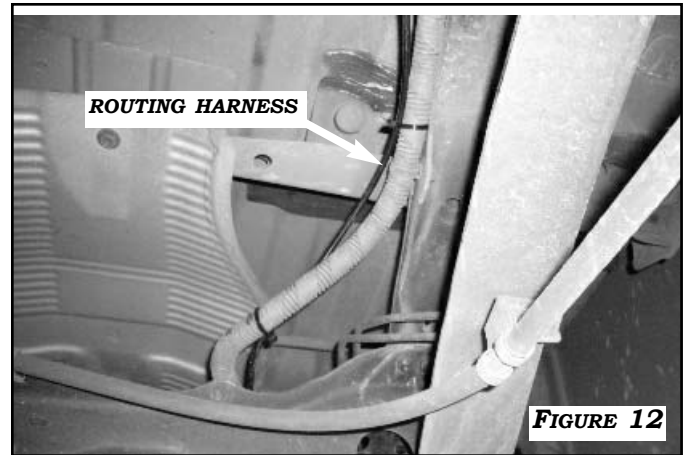

FIGURE 12
5. ROUTE THE TRUCK EXTENSION HARNESS FROM THE KICK-PANEL, UNDER B-PILLAR, AND REAR DOOR SCUFF PLATE. USE THE FACTOR WIRE CHANNELS AND RETAINING CLIPS. EXIT THE TRUCK EXTENSION HARNESS THROUGH GROMMET UNDER THE REAR PASSENGER SIDE CARPET. **FIGURE 11.** ROUTE THE TRUCK EXTENSION HARNESS WITH THE EXISTING VEHICLE WIRING UNDER TRUCK BED. **FIGURE 12.** CONTINUE ROUTING HARNESS TO REAR OF TRUCK AT THE AREA NEAR THE RIGHT SIDE OF SPARE TIRE.